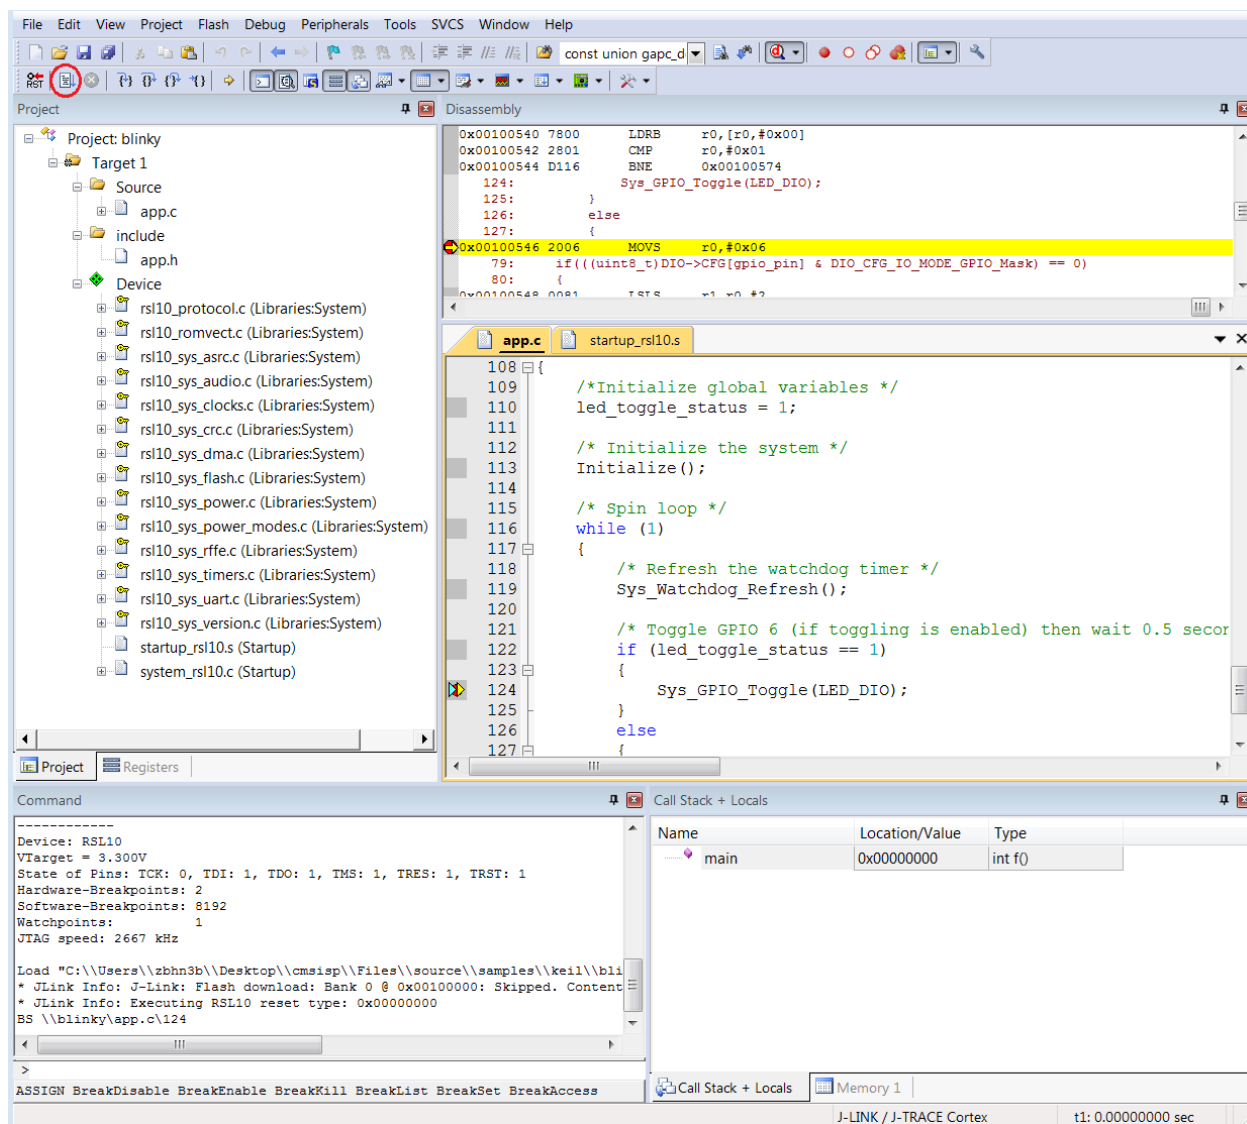

Figure 25. Debug Session in the Keil µVision IDE
3. The application runs up to the first breakpoint in *main*, as shown in the figure "Debug Session in the Keil mVision IDE" (Figure 25). You can press F11 multiple times to step through the code and observe that the LED changes its state when the application executes the function `Sys_GPIO_Toggle(LED_DIO)`.